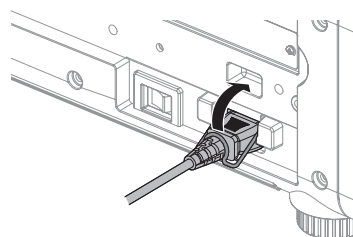

Fig.1
- 2) **Raise the power cord holder fixing the power cord upward. (Fig. 1)**